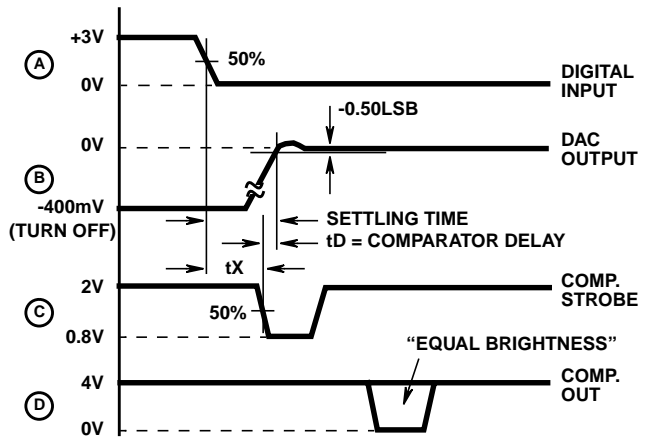

FIGURE 5B.
As shown in Figure 5B, settling time equals tX plus the comparator delay (tD = 15ns). To measure tX,
- Adjust the VLSB supply for 50% triggering at COMPARTOR OUT. This is indicated by traces of equal brightness on the oscilloscope display as shown in Figure 5B. Note DVM reading.
- Switch to LSB to Pulse (P)
- Measure tX from scope as shown in Figure 5B. Settling time equals tX + tD, i.e. tX + 15ns.